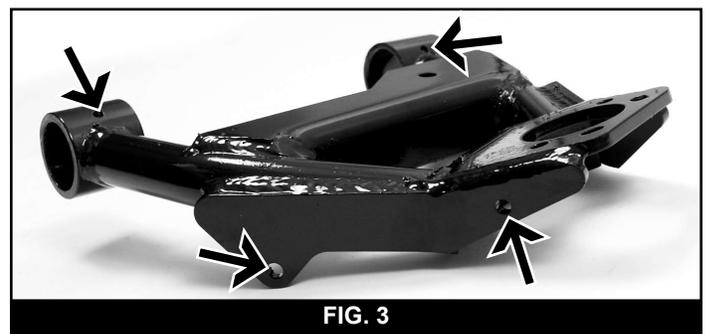

FIG. 3
14. Install the provided 1/4" grease zerks in the two thread holes located on the top side of the control arm pivots (Fig 3).
18. Attach the ABS wire bracket to the new control arm in the hole nearest to the ball joint using a 1/4" x 1" bolt, nut and SAE washers provided (Fig. 3).
19. Attach the bracket line bracket to the hole provided in the control arm using the OE bolt and nut (Fig 3).